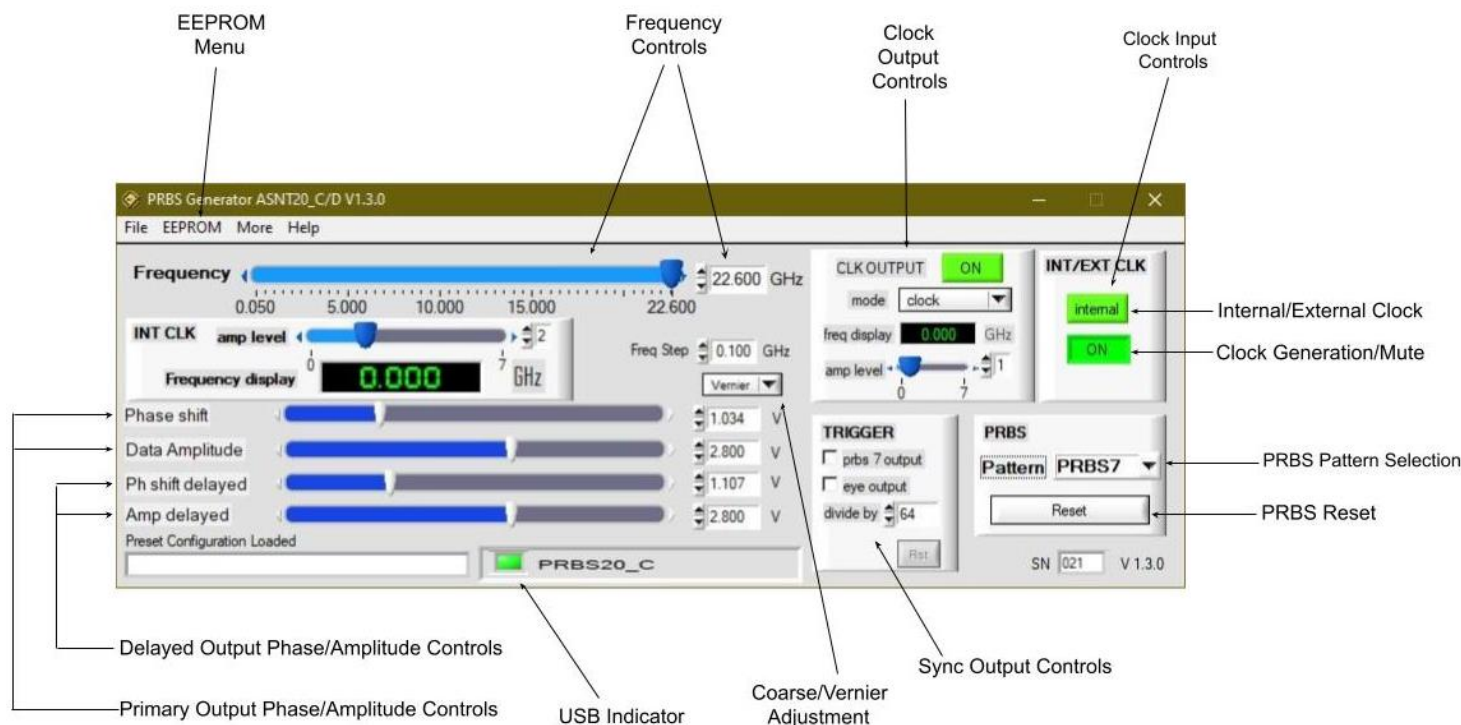

Fig. 4 Software GUI
4. After the installation is complete, initiate the GUI software and confirm its connection by ensuring that the USB Connection Indicator light is green as it's depicted in **Fig. 4**.